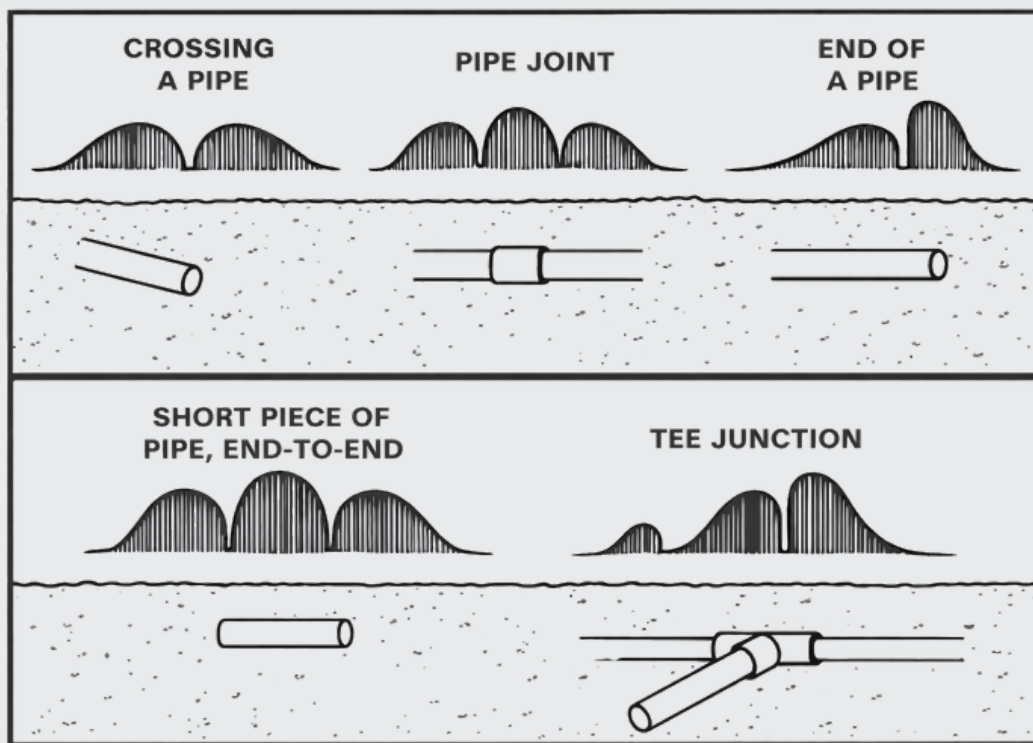

Figure 3. Tracing pipes – Typical FX-3 responses at medium sensitivity and moderate sweep speed.
6. Figures 3 and 4 show some typical responses for buried targets. Fig. 5 shows the effects of changing